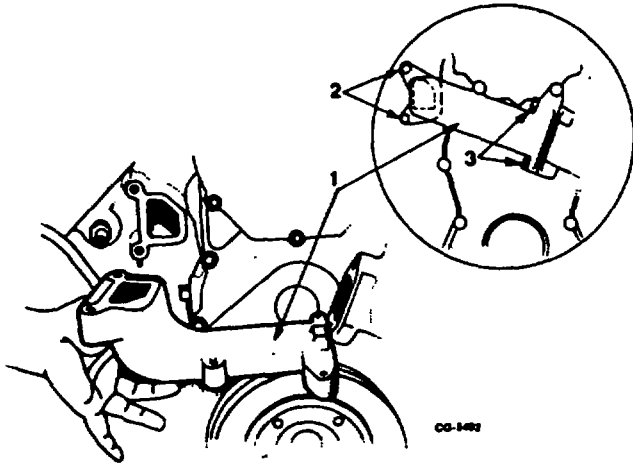

Figure 154. Removing Water Manifold
- 11. Remove water pump to crankcase manifold by removing two bolts from manifold to crankcase and two bolts from manifold (Figure 154).